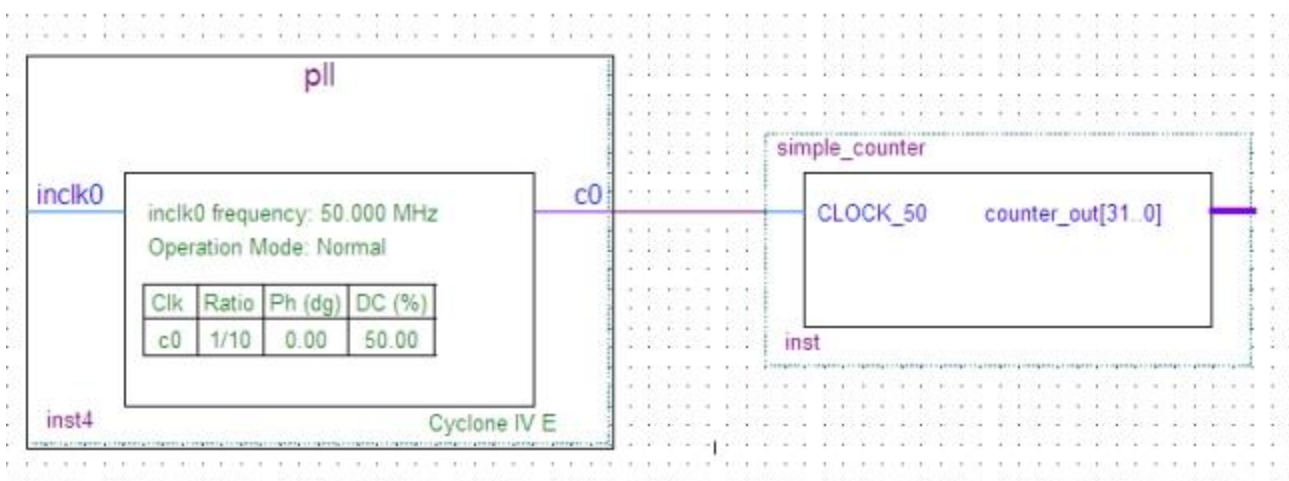

Figure 3-16 Draw a Bus Line connect pll c0 port to simple_counter CLOCK_50 port
13. Click and drag a bus line from the c0 output to the simple_counter clock input. This action ties the pll output to the simple_counter input (see Figure 3-16).